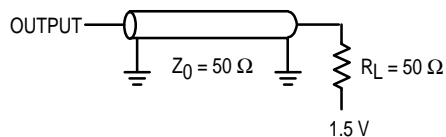

Figure 2. AC Test Load
Output Load See Figure 2 Unless Otherwise Noted
- Tested per AC Test Load, Figure 2.